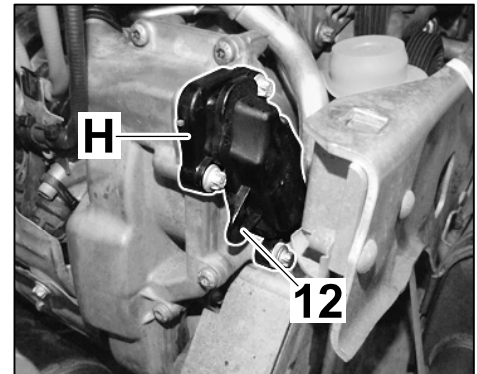

Figure 7
- 2.2 Fit holder ⇒ *Figure 7-12-* for guiding the left steel flexi-pipe on the positive crankcase ventilation cover ⇒ *Figure 7-H-*.